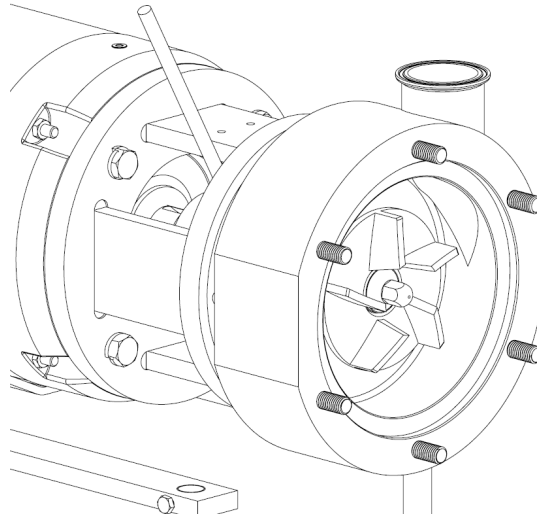

Figure 18
10. Insert the 3/8" bar into the stub shaft, Figure 18, and torque the rotor nut to its respected value (page 5).